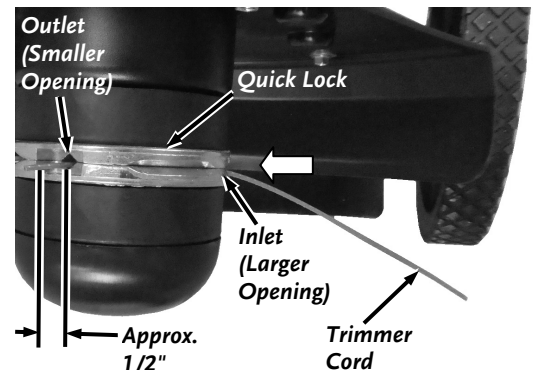

Figure 5
1. Insert the end of a Trimmer Cord into the inlet hole (larger slotted cutout) push it in until the end protrudes out the other side approximately 1/2" (**Figure 5**).